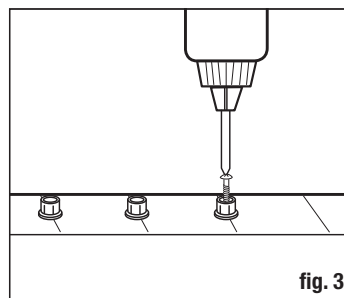
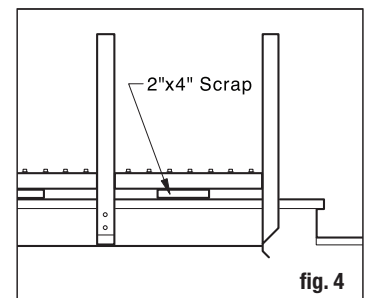
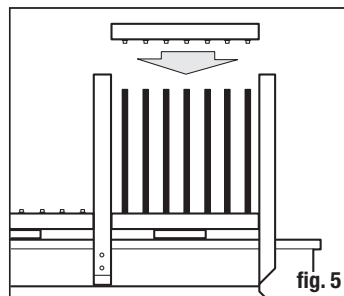
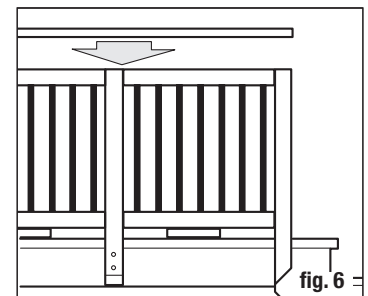

fig. 3
fig. 4
fig. 5
fig. 6
Step 3: Using a drill driver, screw on baluster connectors at each mark using the screws provided (fig. 3). Apply silicone caulk on each connector to prevent balusters from turning or rattling after installation is complete. The caulk should be on the outside of the connector, where the baluster will make contact with the connector's outer edge.
Step 4: Place the bottom rail between the rail posts, supported by a 3" block (2x4 scrap material works best) (fig. 4). Secure rail to posts using rail connectors (sold separately) and then slide balusters over the bottom connectors. Carefully place top rail over the balusters; working from one end to the other making sure each baluster is seated properly on each connector (fig. 5).
Step 5: Inspect finished railing for proper baluster spacing and secure top rail. Add a cap rail for a finished look (fig. 6).
Step 3: Properly position the connectors on the rails. The top and bottom connectors will be facing opposite directions (fig. 3). Screw the connectors in place. To properly set connectors, begin screwing vertically until the screw bites into the wood (fig. 4). Reposition screw to the proper angle and tighten. Do not over-tighten, which can move the assemblies off center.
Step 4: Make sure connectors are properly aligned, apply silicone caulk to each connector and assemble the top and bottom rails with the balusters (fig. 5). Then attach full rail section between the stair rail posts (fig. 6). For stair rail sections longer than 4', support blocks are required. These can be made from leftover 2x4 rail material. Properly position the support block and toe-nail it to the bottom rail and deck board.